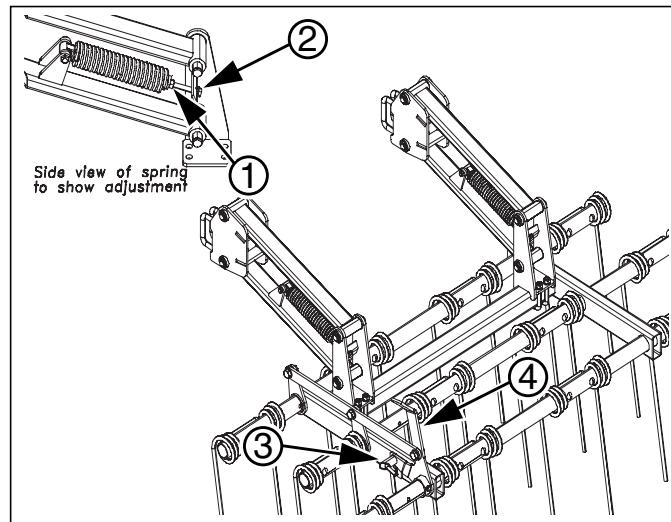

Figure 11
*Refer to Figure 11*
2. To adjust down pressure loosen the jam nut ①, and screw the spring bolt ②, in to put more down pressure on the drag, or adjust the bolt out to have less down pressure. Retighten the jam nut ①, to secure your adjustments. The spring will be pre-set to 3 -3½" of bolt left to adjust.
3. To change angle of coil tine, rotate the locking pin ③ and move the adjustment lever ④ forward or backwards. Moving the lever towards the rear of the machine makes the drag more aggressive. Moving the lever towards the front of the machine will allow residue to flow through the drag easier. The adjustment lever has 4 positions and will change the coil tines several degrees.
4. Rotate the locking pin ③, back to its engaged position when the desired angle is set.